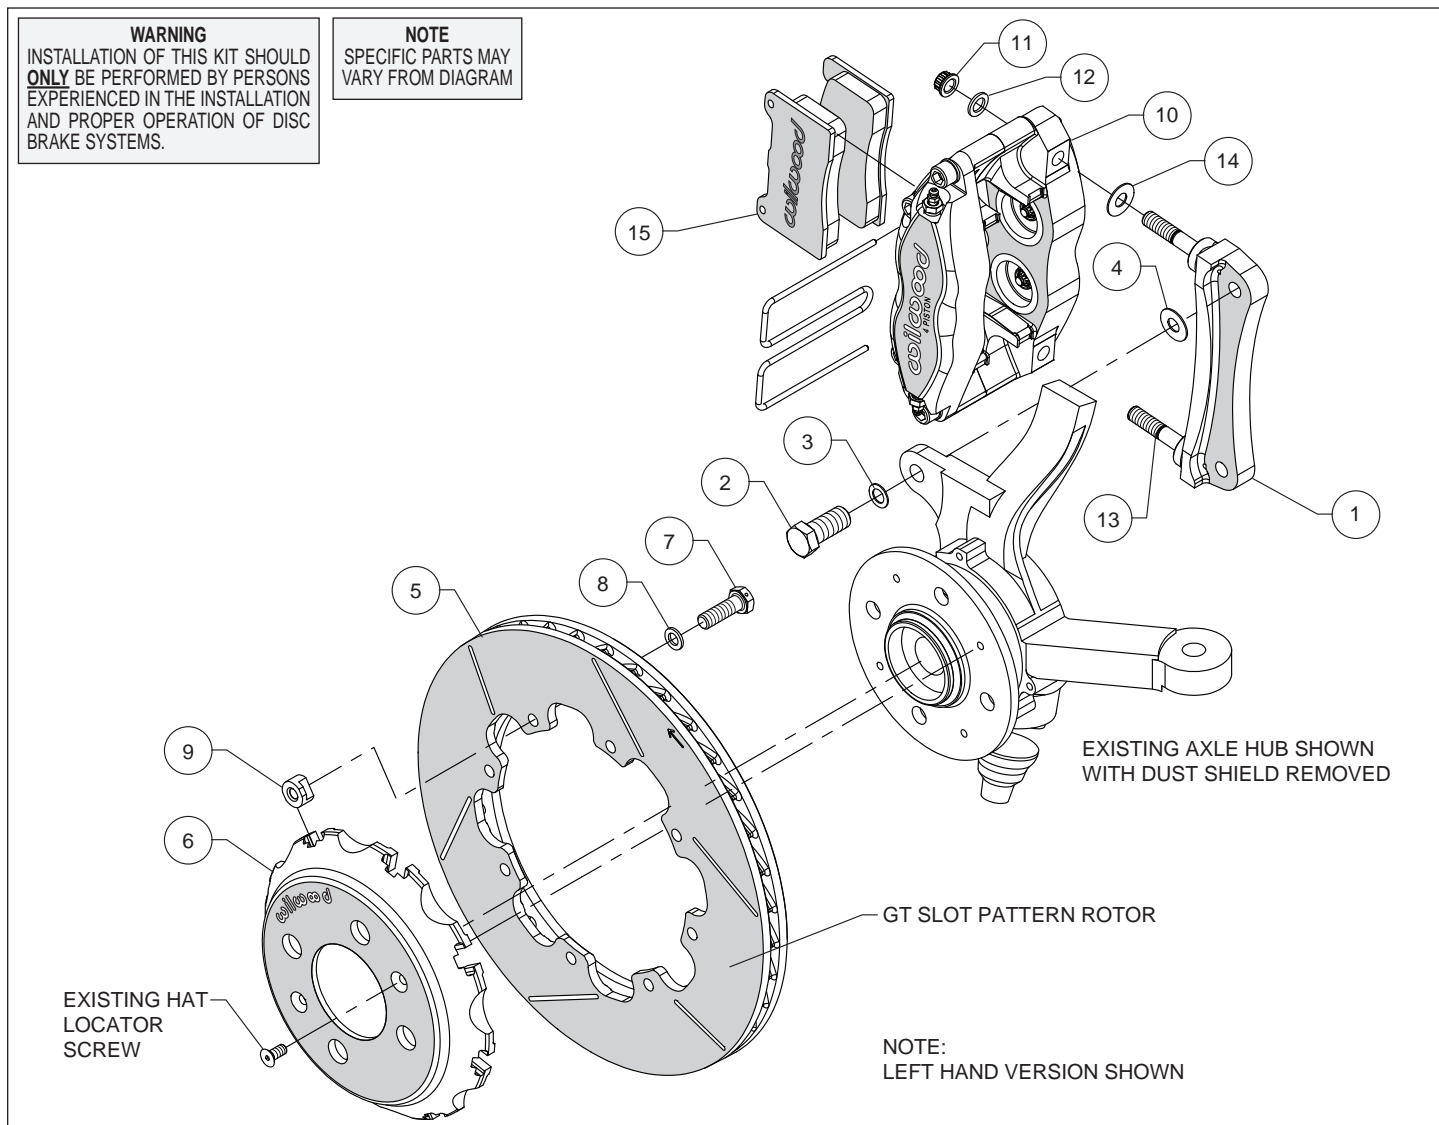
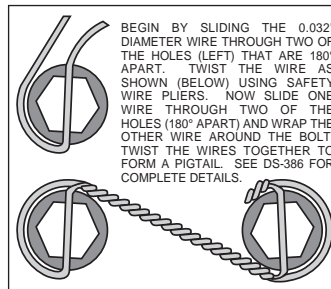

Figure 1. Typical Installation Configuration
Figure 3. Safety Wire Diagram
**Assembly Instructions** (numbers in parenthesis refer to the parts list and Figure 1 on the preceding pages):
- The caliper mount bracket (1) should initially be installed with clean, dry threads on the mounting bolts. Orient the bracket, as shown in Figure 1 and Photo 1, and install using bolts (2) and washers (3). Initially place one .033" thick shim (4) on each bolt between the bracket and upright, Figure 1. Temporarily tighten the mounting bolts. **NOTE:** *The bracket must fit squarely against the mount bosses on the upright.* Inspect for interference from casting irregularities, machining ridges, burrs, etc. Later, after the caliper alignment has been checked, the mount bolts will be secured using red *Loctite*® 271.
- Orient the rotor (5) and the hat (6) as shown in Figure 1 and Photo 3. Attach rotor to hat using bolts (7), washers (8), and t-nuts (9). Follow additional instructions included with the bolt kit. Using an alternating sequence, apply red *Loctite*® 271 to the threads, and torque to 220 in-lbs. Safety wire bolts using standard 0.032 inch diameter stainless steel safety wire as shown in Figure 3. Please refer to Wilwood's data sheet DS-386 (available at [www.wilwood.com/Pdf/DataSheets/ds386.pdf](http://www.wilwood.com/Pdf/DataSheets/ds386.pdf)) for complete safety wire installation instructions.
- Lubricate the caliper mounting studs (13) with lightweight oil. Initially place one .035" thick shim (14) on each stud as shown in Figure 1 and Photo 4. Mount the caliper (10) onto the bracket (1) using lock nuts (11) and washers (12), Figure 1. Temporarily tighten the lock nuts and view the rotor through the top opening of the caliper. The rotor should be centered in the caliper, Photo 5. If not, adjust by adding or subtracting shims (4) between the bracket and the mounting bosses. Once the caliper alignment is correct, remove the bracket mounting bolts (2) one at a time, apply red *Loctite*® 271 to the threads, and torque to 60 ft-lbs.
- Insert the brake pads (15) into the caliper with the friction material facing the rotor (5), as shown in Figure 1 and Photo 6. Check that the top of the brake pad is flush with the outside diameter of the rotor, Photo 7. If not, adjust by adding or subtracting shims (14) between the caliper and the bracket. After the caliper pad height is set, torque the caliper lock nuts (11) to 30 ft-lb. Secure the pads in place using the pad clip retainer, Photo 8.